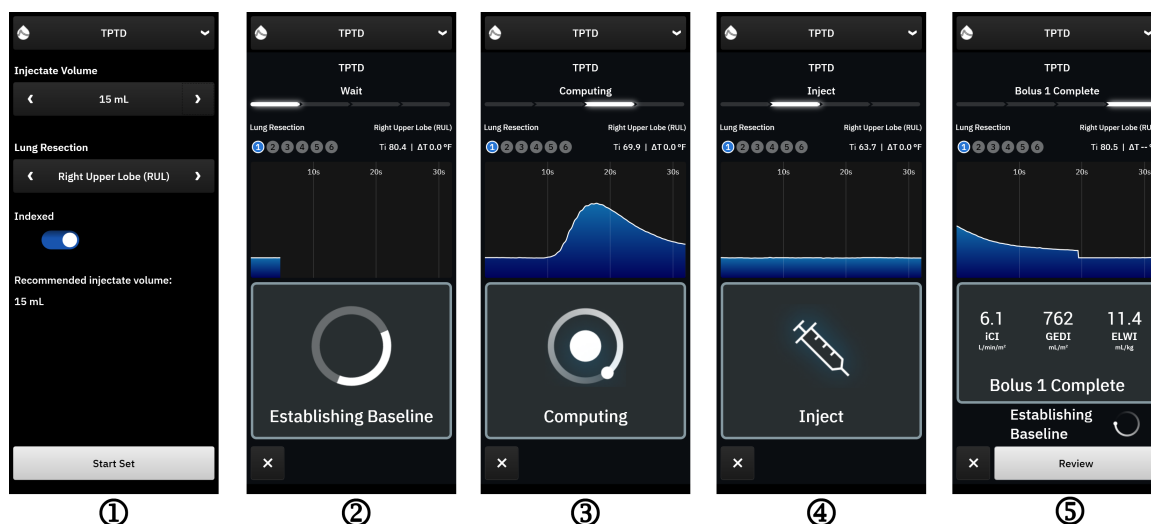

Figure 13-18: TPTD procedure
- Touch the **Start Set** button. See (1) in Figure 13-18 on page 340.
6. **Wait** will appear at the top of the side panel with the text "**Establishing Baseline**". See (2) in Figure 13-18 on page 340.
7. When the thermal baseline is established the "**Inject**" screen will appear. See (3) in Figure 13-18 on page 340.
10. Observe the thermal washout curve. "**Computing**" will appear to indicate parameters are being calculated from washout curve. See (4) in Figure 13-18 on page 340.